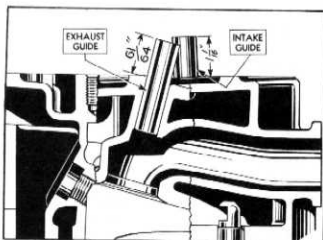

Fig. 15—Valve Guides (216 Engine)
- The exhaust guides are installed in the head so they will extend $61/64$ " above the head and the intake guides extend $1\frac{1}{16}$ " above the head (fig. 15).